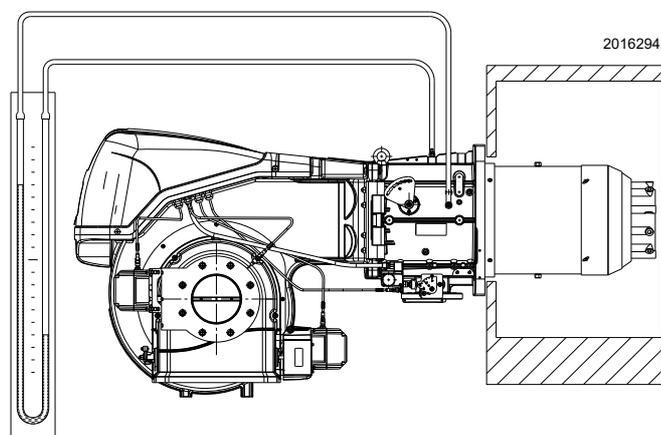

Fig. 25
- Fit a U-type pressure gauge or a differential pressure gauge (Fig. 25), with socket (+) on the gas pressure of the pipe coupling and (-) in the combustion chamber.
The arrival of gas at the pipe coupling is indicated by the U-type pressure gauge (Fig. 25).